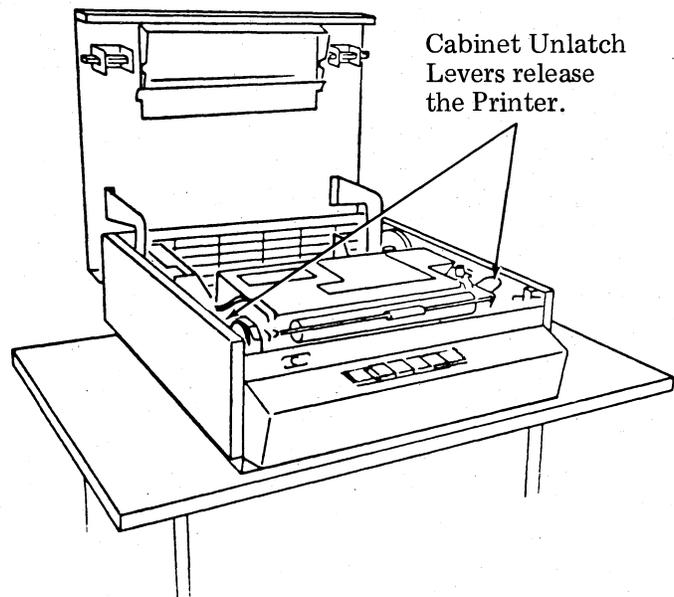

Figure 3 - Printer in Cabinet With Cover Up
1.03 The printer can be lubricated without removing the printer from the cabinet by positioning the printer in the tilt position (Figures 3 and 4).
2. Release printer to the tilt position by depressing the left and right release levers. The printer moves up a short distance (Figure 3).